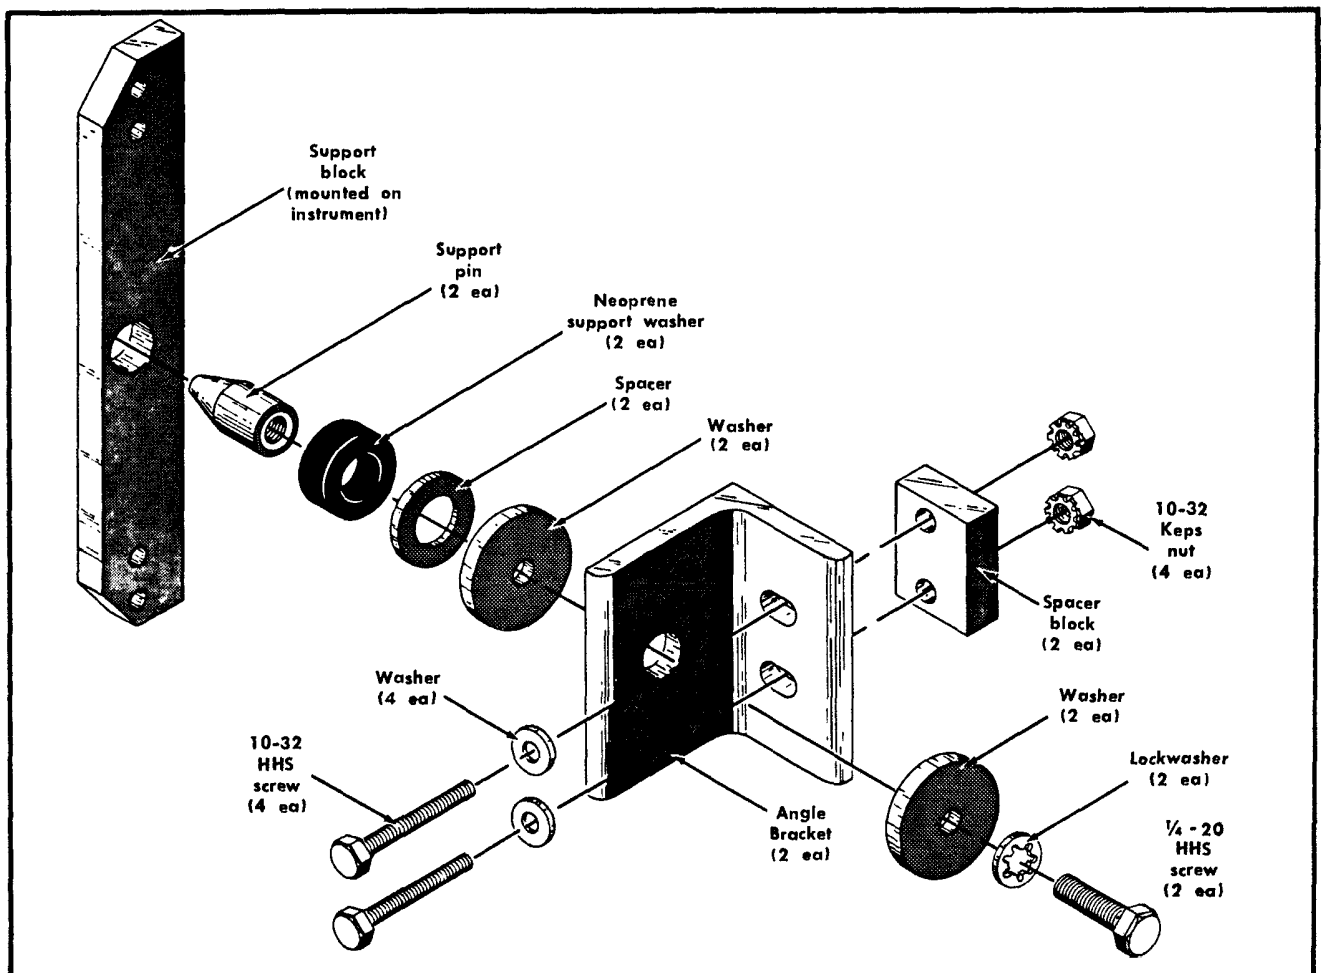

Fig. 10-4. Rear support kit.
The following mounting procedure uses the rear support kit (see Fig. 10-4) to meet the environmental characteristics
3. Attach an angle bracket to both rear rails of the rack through the spacer block, stationary section and into the rear rail of the rack (only one bracket necessary for single instrument). Note that the holes in the spacer block are not centered. Be sure to mount the block with the narrow edge toward the front of the rack; otherwise, the instrument may not slide all the way into the rack. Do not tighten the mounting screws. Fig. 10-4 shows the parts in the rear support kit and the order in which they are assembled.
4. Assemble the support pin to the angle bracket in the order shown in Fig. 10-4. Leave the spacer (washer) off but install the neoprene washer.